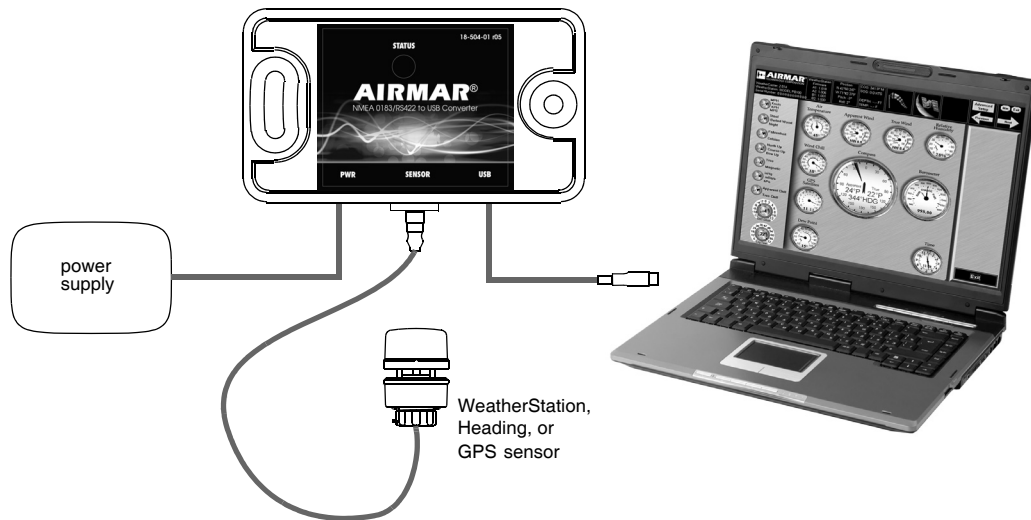

Figure 1. Data Converter 33-1081-01: Installation (WeatherStation Instrument shown) (not to scale)
1. Select a convenient, dry, mounting location for the water-resistant Data Converter, a minimum of 1 m (3') from the PC (Figure 1).
Route the sensor cable to the Data Converter (Figure 1). *Do not connect the cable or fasten it in place at this time.*